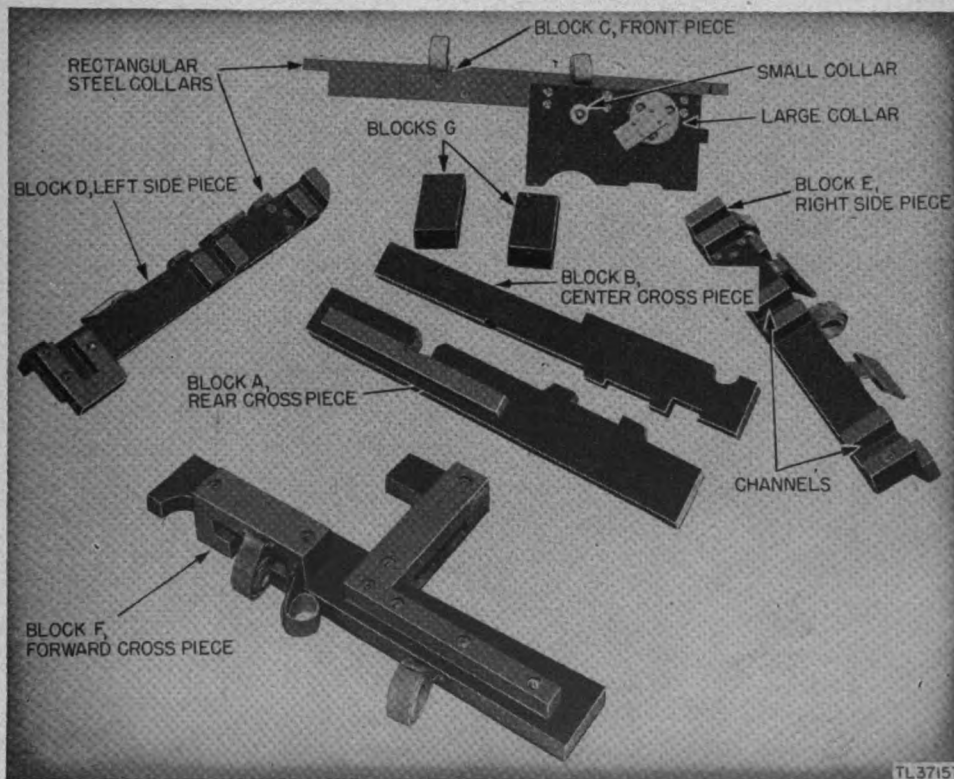

Figure 112. Mounting Blocks Kit X145-V8.
b. DESCRIPTION. (1) *Kit.* The kit consists of eight wooden blocks each made of 2-inch maple with the corners reinforced with metal. Each block is equipped with steel rectangular collars that fit over the side rack stakes of Trailer K-52 and are finished in olive-drab paint.
(2) *Trailers.* Two types of 1-ton, two-wheel, cargo trailers are used. One type is a Hercules model T-6 of wooden construction, and the other type is a Gerstenslager model A of steel construction. The distance from the stake pockets on one side to stake pockets on the other side is slightly greater on the wooden trailer than on the steel trailer. The kit can be used on either model. The only difference is that, when the Gerstenslager steel trailer is used, the hinged blocks on the two side pieces (fig. 112, blocks D and E) must be dropped into place between the side pieces and the trailer body. When the Hercules model T-6 is used, these blocks must
c. PARTS AND USES OF KIT (FIG. 112). The kit consists of the following: